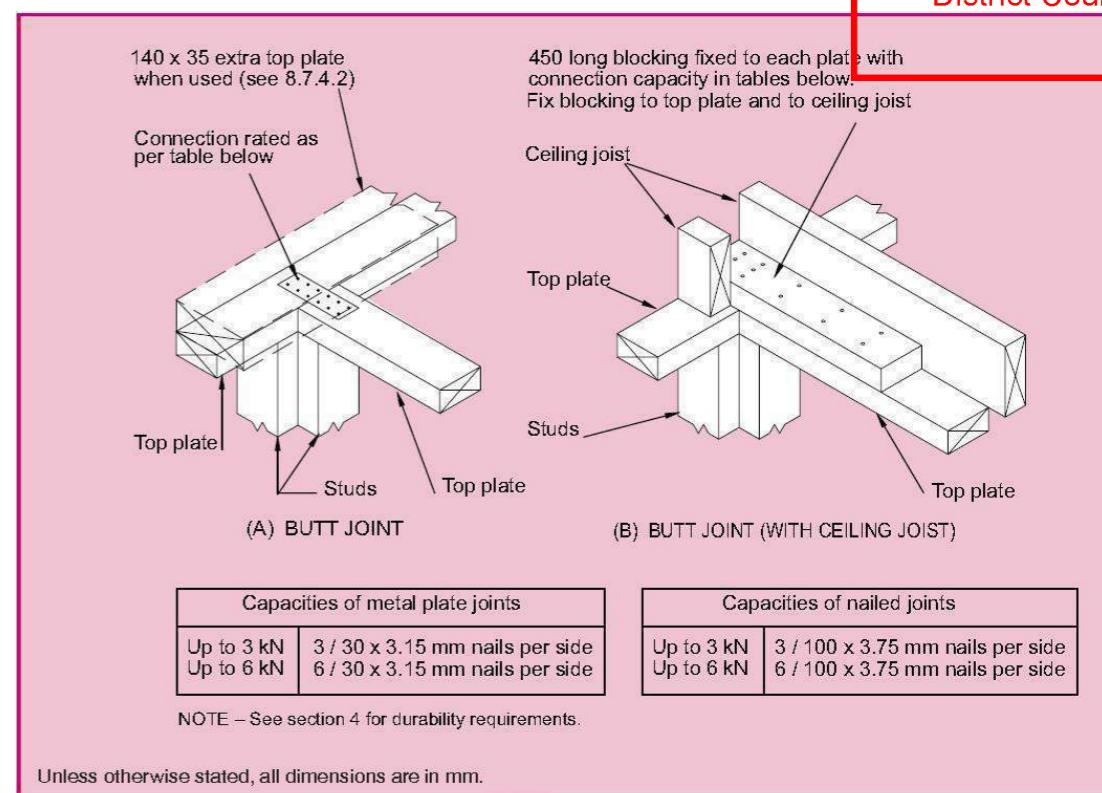

Figure 8.16 – Connecting top plates to external walls at right angles – Walls containing bracing (see 8.7.3.4)
- For each wall containing wall bracing elements with a total bracing capacity of not more than 125 bracing units: to at least one such external wall by a fixing as shown in figure 8.16 of 6 kN capacity;
- For each wall containing wall bracing elements with a total bracing capacity of not more than 250 bracing units: to at least 2 external walls by fixings as shown in figure 8.16 each of 6 kN capacity;
- For each wall containing wall bracing elements with a total bracing capacity of more than 250 bracing units: to at least 2 external walls by fixings as shown in figure 8.16 each having a rating of not less than 2.4 kN per 100 bracing units.